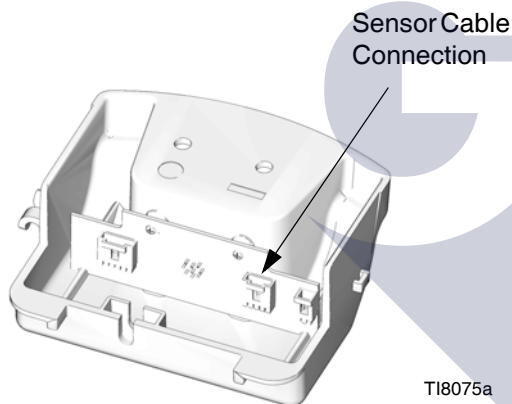

FIG. 15. Sensor Cable Connection
- a. **DataTrak Models:** Remove the two screws (135). Carefully remove the DataTrak module (131), see page 14. Disconnect the runaway solenoid and sensor cables from the module board. Remove the two screws (134) and carefully slide the housing (132) off the air valve.
- b. **Linear Sensor Models:** Remove the screws (134) and carefully slide the housing (132) off the air valve. Disconnect the sensor cable from the circuit board. See FIG. 15 on page 28.
- a. **DataTrak Models:** Carefully slide the housing (132) onto the air valve. Thread the screws (134) in by hand, then torque to 100 in-lb (11.3 N•m). Reattach the solenoid and sensor cables to the DataTrak module (131), see page 14. Carefully slide the module back into the housing (132). Reinstall the two screws (135).
- b. **Linear Sensor Models:** Reconnect the sensor cable to the circuit board. See FIG. 15, page 28. Carefully slide the housing (132) onto the air valve. Thread the screws (134) in by hand, then torque to 100 in-lb (11.3 N•m).
13. Reinstall the top cover (30).
5. Remove the screws (134) and carefully slide the housing (132) off the air valve. Disconnect the sensor cable from the circuit board. See FIG. 15.
6. Thread the cable back through the hole (H) in the side of the adapter (33) and extend it out the top of the adapter.
7. Unscrew the adapter (33) and sensor (35). Lift the sensor straight up out of the air motor.
8. Apply thread adhesive to the new sensor housing. Screw the sensor (35) into the top cap (1). Torque to 30-36 ft-lb (40.6-48.8 N•m).
9. Apply thread adhesive to the adapter (33). Extend the sensor cable straight up out the top of the adapter, then screw the adapter into the top cap (1). Torque to 30-36 ft-lb (40.6-48.8 N•m).
10. Thread the sensor cable through the hole (H) in the side of the adapter, and reconnect it to the circuit board. See FIG. 15, page 28. Carefully slide the housing (132) onto the air valve. Thread the screws (134) in by hand, then torque to 100 in-lb (11.3 N•m).
11. Apply thread adhesive to the lift ring (21). Hold the adapter (33) with a wrench to keep it from turning, and torque the lift ring to 30-36 ft-lb (40.6-48.8 N•m).
12. Reinstall the top cover (30).